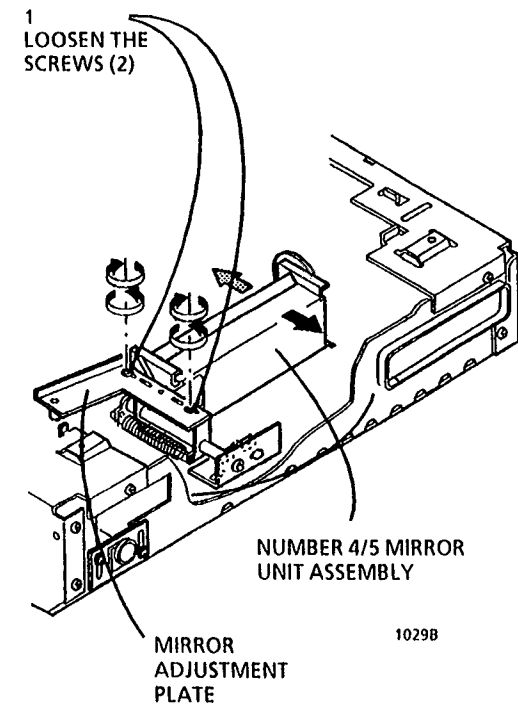

Figure 2. Loosening the Two Screws
8. (Figure 2): Move the Number 4/5 Mirror Unit Assembly slightly left or right and tighten the screws.